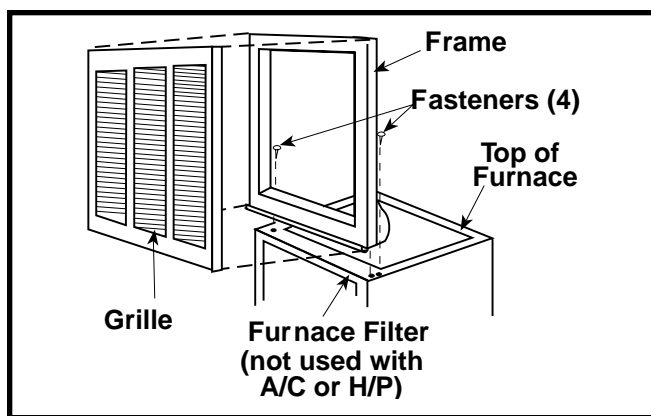

Figure 2. Grille Support Frame & Grille Assembly
- Alcove installations: use return air grille & frame assembly P/N 902989 or equivalent. See Figure 2, page.
- Use the filter supplied with the furnace; ensure that the filter is installed mat side down between the filter retainer and furnace top. See Figure 2.
A return air grille and frame assembly (Figure 2, page 7) is available for use in unducted return air installations. In downflow alcove installations, the grille and frame assembly may be mounted directly to the top of the furnace. In closet installations, a wall mount grille is available for attachment to a door or wall.